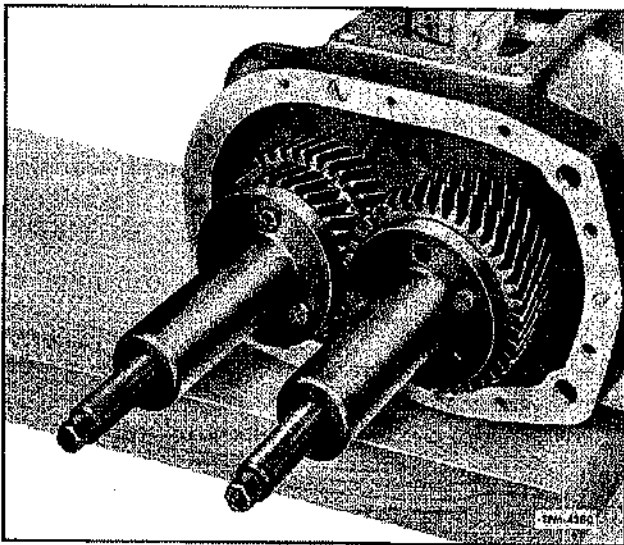

Figure 6—Removing Blower Reduction Gears
1. On reduced speed blowers, used on "E" and "T" Series engines, install puller tool 6270-1 on each gear in manner illustrated in figure 6, then pull gears from rotor shaft. Gears can be removed separately if desired.